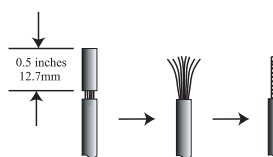

Figure 6
4. Carefully remove sufficient insulation from the cable ends. If the cable is stranded, twist the strands together as tightly as possible, refer to figure 6.